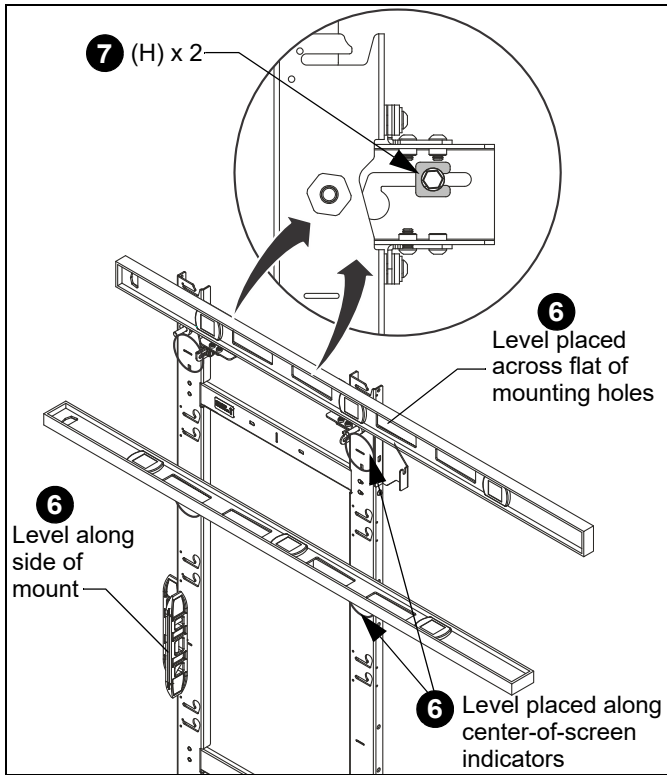

Figure 7
6. Lay levels across flat of the mounting holes and center-of-screen indicators, and vertically along side of mount to ensure wall mount is square and level. (See Figure 7)
7. Slide installation washers (H) behind head of fasteners and tighten mount in place. (See Figure 7)